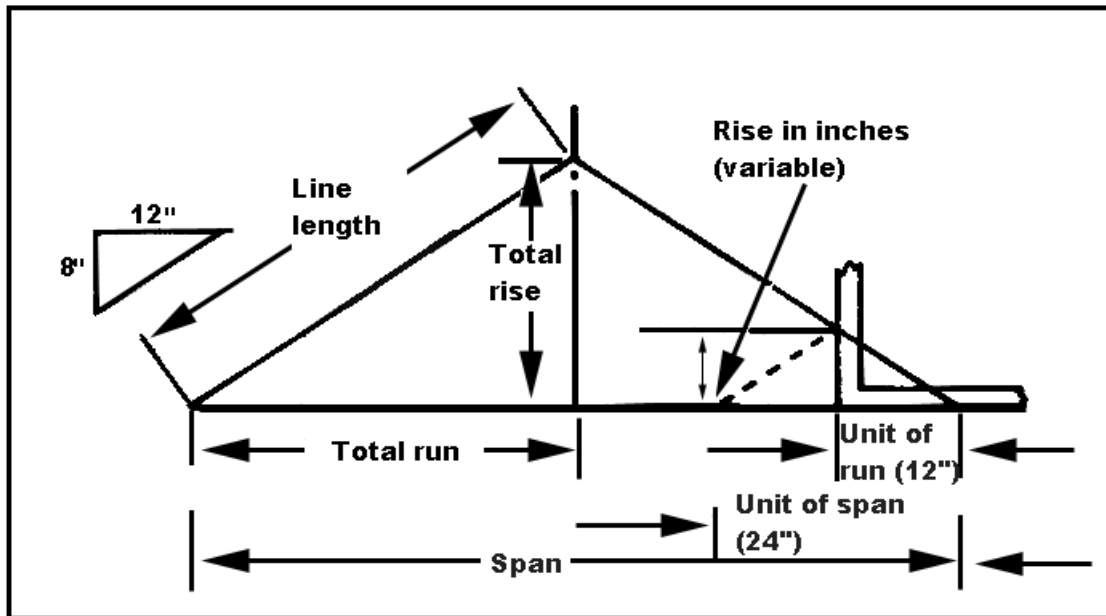

Figure 051-236-1144-1
**Conditions:** As a carpentry and masonry specialist in a field environment, given Field Manual (FM) 5-426, construction prints and specifications, a carpenter's tool kit, a completed wall system, plywood, 2- by 6-inch lumber, nails, a circular saw, an electric drill, an extension cord, a power source, saw horses, safety goggles, hearing protection, a hard hat, paper, and a pencil.
1. Identify the components of a roof system (Figure 051-236-1144-1). The roof system includes the--